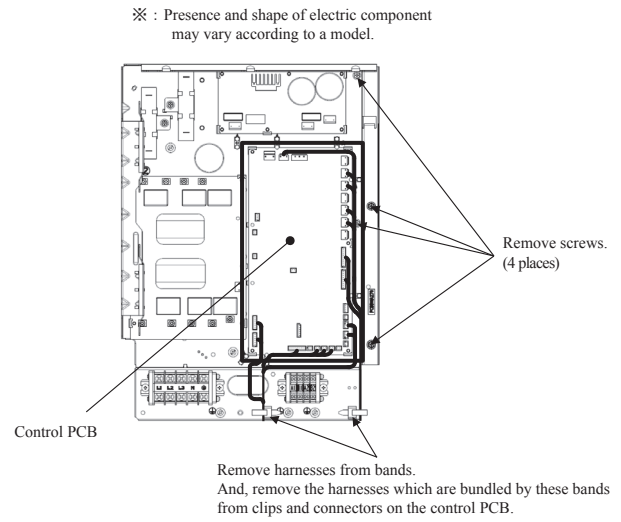

Fig.3 Target places which are removed harnesses and screws
- 3) Disconnect connectors from the control PCB. (Refer to Fig.3)
- 4) Remove the harnesses from bands (2 places) and clips (3 places), and remove screws (4 places) of a control. (Refer to Fig.3)